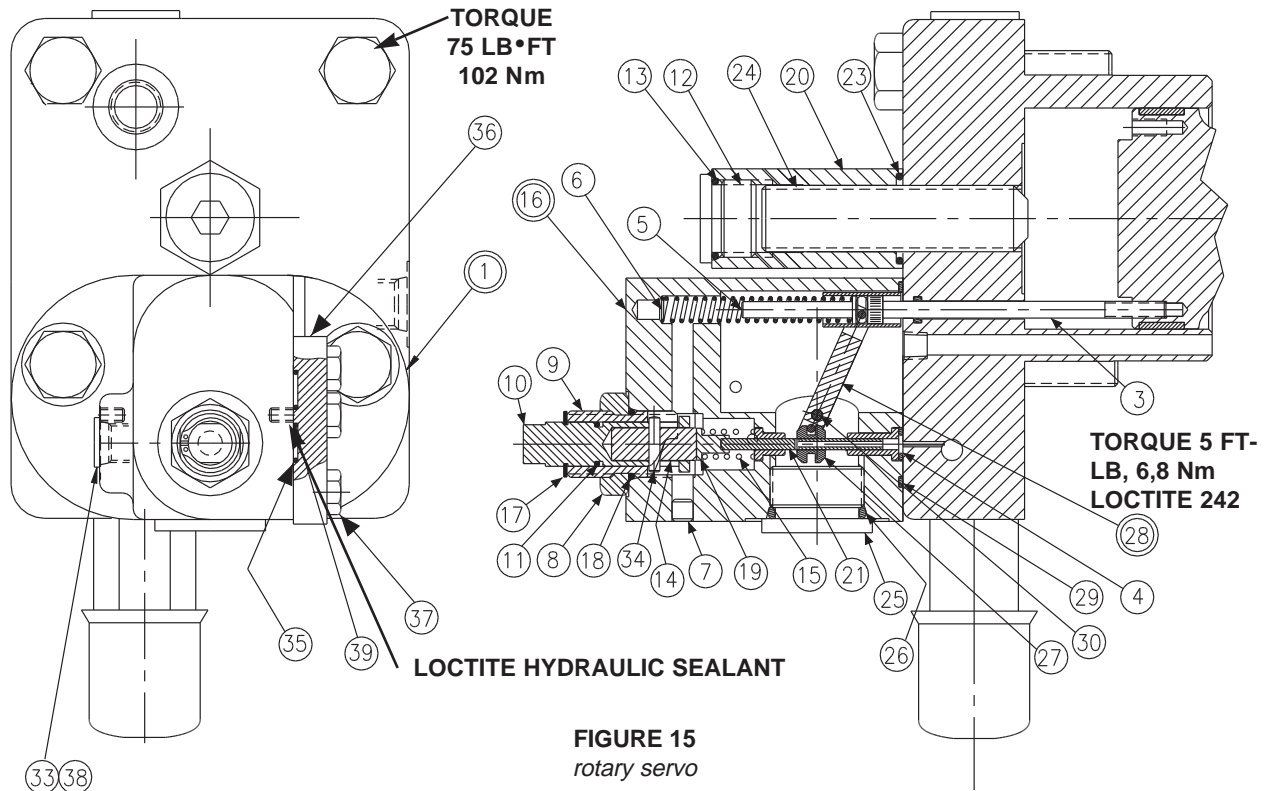

FIGURE 15
PARTS LIST FOR FIGURE 15
1. See Figure 15. Remove 2 screws holding body (16) to cap assembly (1).
2. Remove all parts from body (16) except pin (30) and arm assembly (28). It is not necessary to remove these parts unless broken or worn. Examine parts for wear or damage.
3. Remove screw (3). Examine head for excessive wear, and body for smooth sealing surface with O-ring.
2. Install spool (4) into bore as shown. Install spring (8) over end of spool.
3. Install O-ring (13) on spring retainer (12). Install retainer (12), screw (14) and nut (15) in plug (3).
4. Install O-rings (7) and (16) on plug (3). Install plugs (3) and (9) in body (1). Install orifice (20) and plugs (10). Torque plugs. Install O-ring (5) in cap.
5. Turn screw (14) in until spring retainer (12) contacts spring (8). Turn an additional 1-1/2 turns and lock in position.
8. See Figure 15. Apply Loctite 242 on threads of screw (3), lubricate the shank, thread through the cap into the control piston, and torque to 5 lb.·ft., 6,78 N m.
9. Install minimum stop screw (24) and turn clockwise to stroke pump to full stroke. Measure height from control cap to top of screw (3). With control piston at full stroke, dimension must be .45 +/- .03 in., 11,4 +/- 0,76 mm. Back out minimum stop screw (24) till there is no contact with control piston.
10. Press dowel (30) into body (16), through the link (28), to 1/4 in., 6,35 mm below surface. Apply Loctite hydraulic sealant to threads of screws (39) and install over dowel (30).
11. Press spool (21) into retainer (19). Caution: do not use excessive force.
12. While sleeve (27) is engaged into dowel on link (28), slide above spool assembly with spring (15) into bore of body (16), and through sleeve (27). Spool (21) must move freely and easily at all positions of the link (28).
13. Press dowel (34) through slide pin (14), while inside shaft (10). Dowel (34) must evenly extend from both sides of slide pin (14).